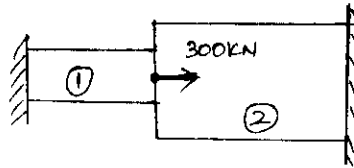

Fig.Q.7
- 7 An axial load of 300kN is applied to 20°C to the rod as shown in Fig.Q.7. The temperature is the raised to 60°C. Determine: i) Nodal displacements; ii) Stress in each material; iii) Support reactions. (20 Marks)